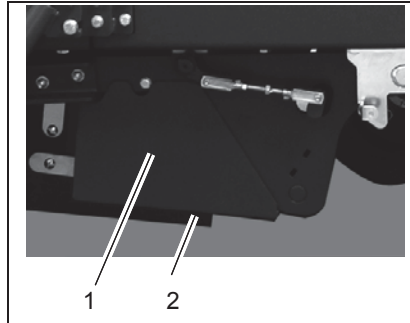

Fig. 44
The cover (Fig. 44/1) of the belt is fixed by two screws (Fig. 44/2).
1. Remove the screws (Fig. 44/2).
2. Remove the belt cover (Fig. 44/1).
5. Assemble the belt cover (Fig. 44/1) and fix with the screws (Fig. 44/2).